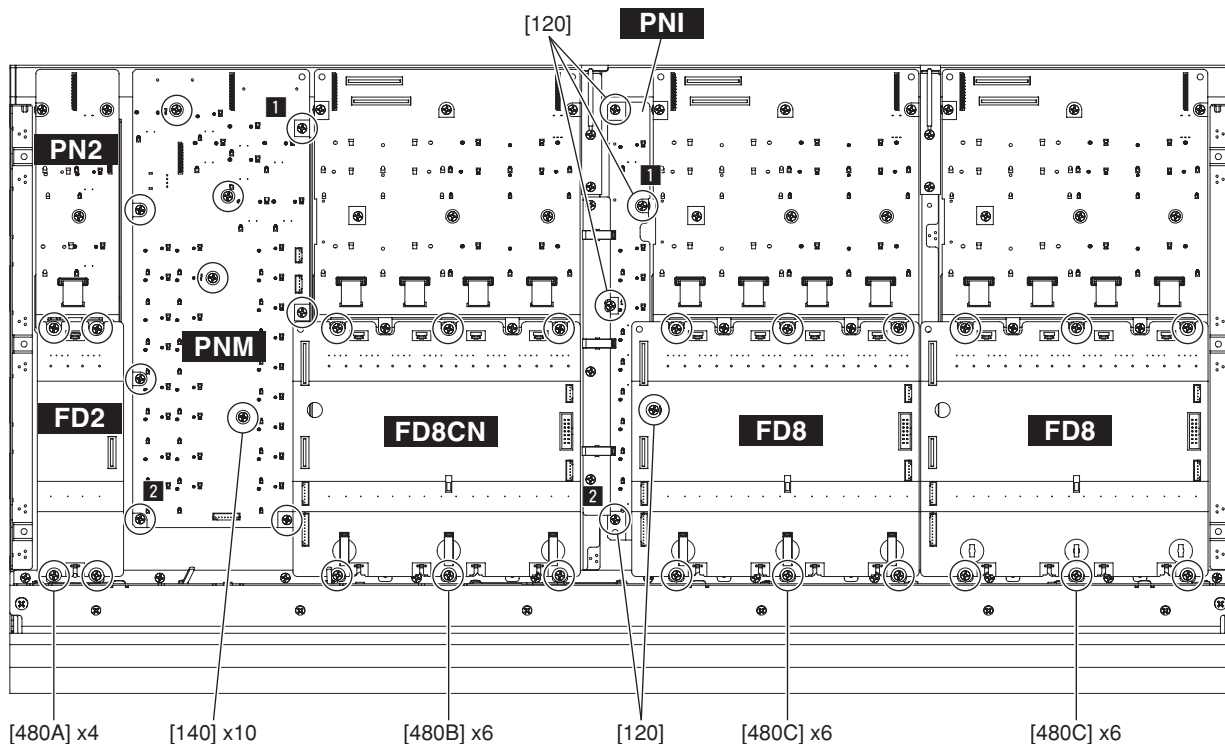

Fig. 9 (図 9)
- B-6-3. Remove the four (4) screws marked [480A]. The FD2 circuit board can then be removed. (Fig. 9)
(図 9)
- B-7-3. Remove the six (6) screws marked [480B]. The FD8CN circuit board can then be removed. (Fig. 9)
- B-8-3. Remove the six (6) screws marked [480C]. The FD8 circuit board can then be removed. (Fig. 9)
- B-9-3. Remove the ten (10) screws marked [140]. The PNM circuit board can then be removed. (Fig. 9)
- * **When installing the PNM circuit board, tighten the screws 1 and 2 shown in fig. 9 in numerical order and then tighten the other screws.**
- B-10-2. Remove the five (5) screws marked [120]. The PNI circuit board can then be removed. (Fig. 9)
- * **When installing the PNI circuit board, tighten the screws 1 and 2 shown in fig. 9 in numerical order and then tighten the other screws.**
- ※ PNM シートを取り付ける際は、図 9 に示す 1、2 の順にネジを締めてから他のネジを締めてください。
- ※ PNI シートを取り付ける際は、図 9 に示す 1、2 の順にネジを締めてから他のネジを締めてください。